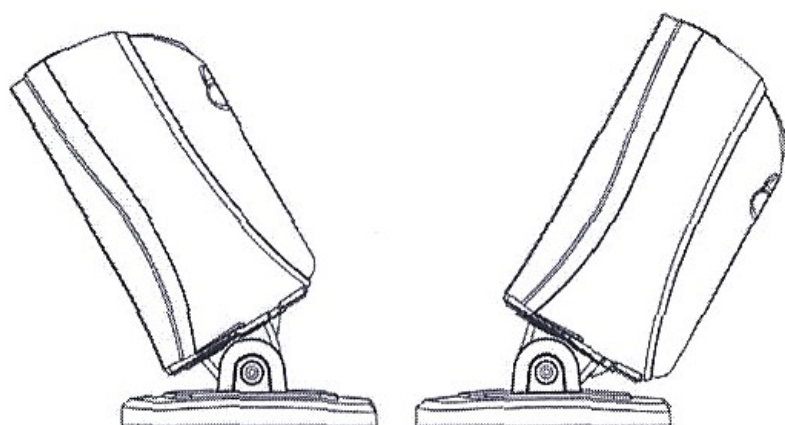

Figure 2-3
3. As shown in Figure 2-3, adjust the image platform forward/backward for a desired position.